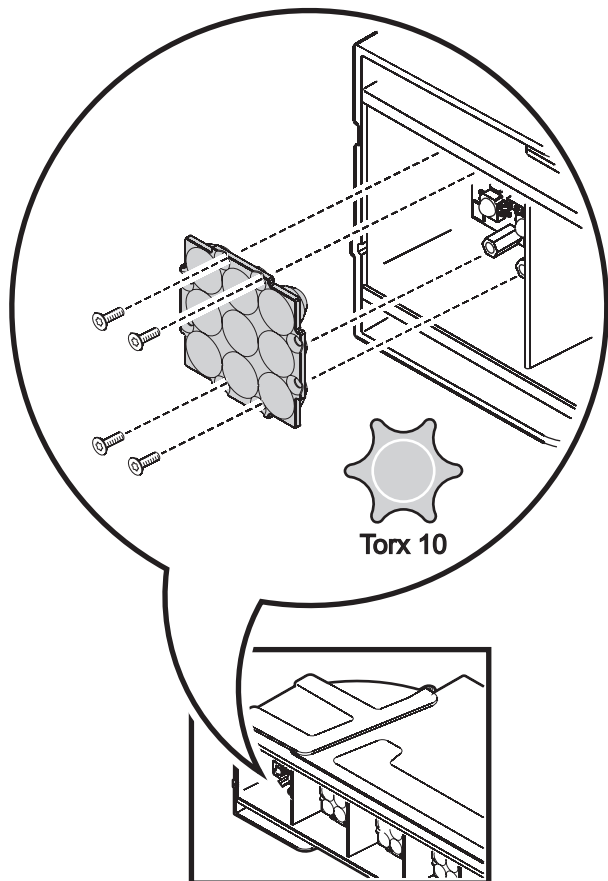

Figure 5: Lens removal
- See Figure 5. Remove the four retaining screws from the lens sheet and lift the lens sheet off its mounting pillars. Keep screws and lens sheets for future use.